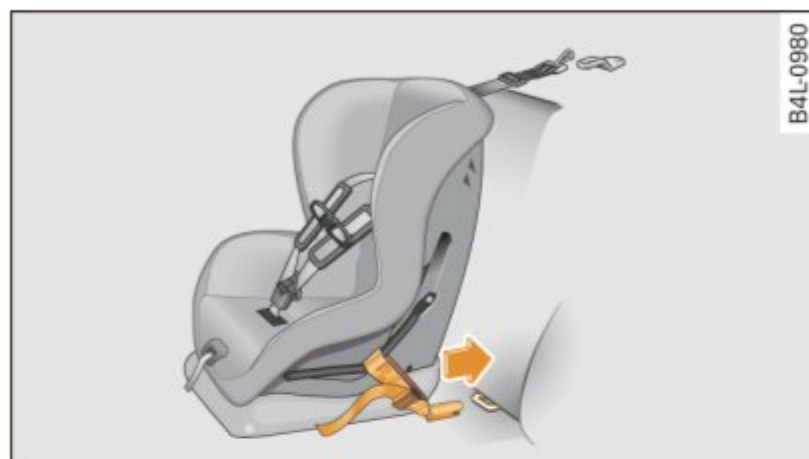

Fig. 151 Lower anchorages: proper mounting
- Attach both hook-on connectors with the spring catch release on the child safety seat onto the LATCH lower anchorage so that the connectors lock into place ⇒ fig. 151.